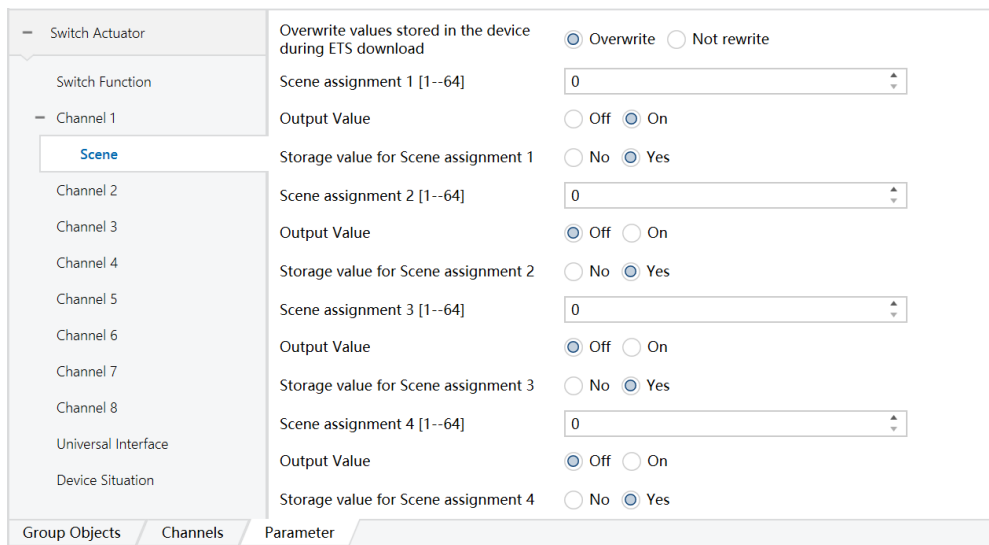

Figure 6.1.4
8-bit scene control	<p>Scene control function, options: Enabled, Disabled, when "Enabled" is selected, the "scene" option appears in the corresponding channel on the left side of the interface, click "scene", and the interface is switched as shown in Figure 6.1.4. In the interface ① parameter "Overwrite values stored in the device during ETS download", options are: Overwrite, Not rewrite; ②parameter "Scene assignment 1—64" indicates the setting of the scene number, and the scene number can be set to 1-64; ③parameter "Output Value" indicates the output value of the channel operation corresponding to the scene number, options: On, Off; ④Parameter "Storage value for Scene assignment X" Options: No, Yes, (for example: Channel 1 and Channel 2 are in the parameter "Scene" Assignment 1[1-64] "Select "1", "Storage value for Scene assignment 1" select "Yes", the communication object takes the group address 3/1/1 as an example, after downloading the data, first execute the module On the manual control operation CH1 and CH2 are On), enter the group address 3/1/1 in the "diagnosis" on the ETS, then select "Learn" in the "Value", select "1" for the scene number, on the bus If it is issued, the scene number "1" is completed to learn the state of the actuators CH1 and CH2 On.)</p>
<p>8-bit scene control</p>	<p>Scene control function, options: Enabled, Disabled, when "Enabled" is selected, the "scene" option appears in the corresponding channel on the left side of the interface, click "scene", the interface is switched as shown in Figure 6.1.4. In the interface ①parameter "Overwrite values stored in the device during ETS download", options: Overwrite, Not rewrite; ② parameter "Scene assignment 1-64; ③parameter "Output Value", options: On, Off; ④ parameter" Storage value for Scene assignment X" Options: No, Yes, (For example: Channel 1 and Channel 2 select "1" in the parameter "Scene assignment 1[1-64]" , select "Yes" for "Storage value for Scene assignment 1" " ", the communication object takes the group address 3/1/1 as an example. After downloading the data, manually control CH1 and CH2 on the execution module to be On (on), and enter the group at the "diagnosis" position on the ETS. Address 3/1/1, then select "Learn" in "Value", select "1" for the scene number, and send it on the bus, then the scene number "1" is completed to learn the state of the actuators CH1 and CH2 On.)</p>
8-bit scene control	Scene control function, options: Enabled, Disabled, when "Enabled" is selected, the "scene" option appears in the corresponding channel on the left side of the interface, click "scene", the interface is switched as shown in Figure 6.1.4. In the interface ①parameter "Overwrite values stored in the device during ETS download", options: Overwrite, Not rewrite; ② parameter "Scene assignment 1—64"; ③parameter "Output Value", options: On, Off; ④ parameter "Storage value for Scene assignment X", options: No, Yes, (for example: Channel 1 and Channel 2 are selected in parameter "Scene assignment 1[1-64]" "1", "Storage value for Scene assignment 1" When "Yes", the communication object takes the group address 3/1/1 as an example. After downloading the data, manually control CH1 and CH2 on the